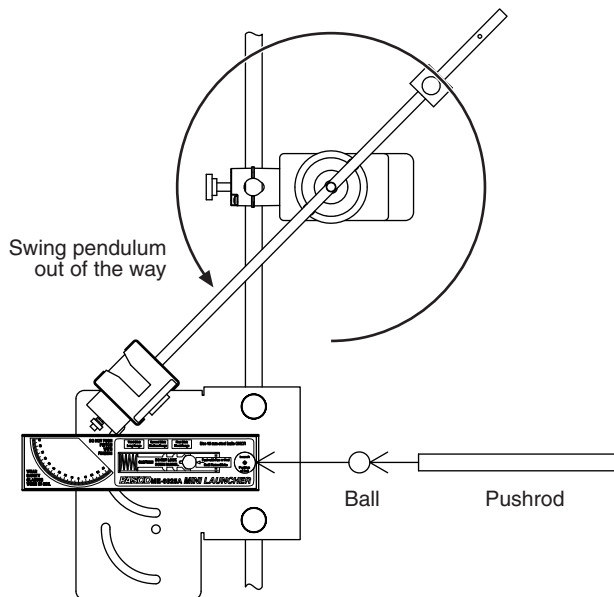

Figure 6: Loading the launcher
1. Swing the pendulum out of the way as shown in Figure 6.